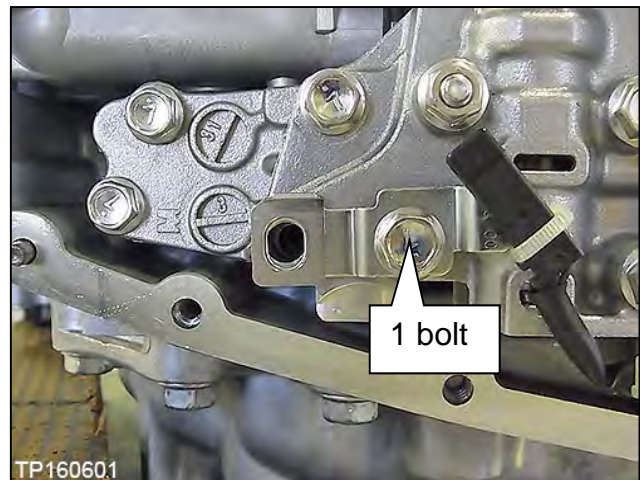

Figure 181
147. Install the CVT fluid temperature sensor bracket to the valve body with one (1) bolt (Figure 181).
**NOTE:** Leave one (1) bolt hole blank as it will be used to secure the oil strainer at a later step.